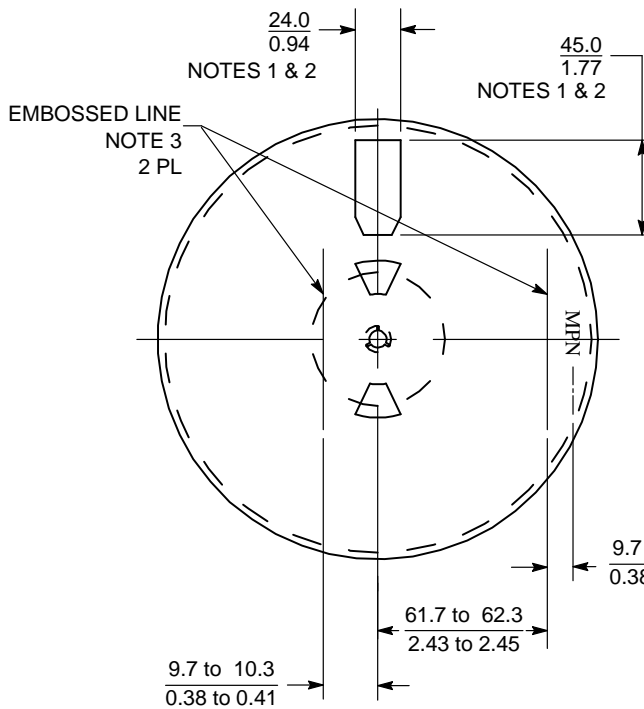

Figure 41. Front View of 178 mm (7.0 in) Reel
- If there are any flange openings on the front side of the 178 mm (7.00 in) reel they must be designed in locations so that two of the 41.3 mm (1.65 in) ON Semiconductor barcode labels can be applied parallel to each other as in Figure 41.
- Flange opening on the front and the back of the reel are a supplier option but must meet all of the requirements in Note 1. The preferred size for the 176 mm (7.0 in) reel is shown in Figure 41.
- The embossed lines on the reel are a option. If the lines are used they must be located as in Figure 41 and 42. They must be a minimum 38 mm (1.50 in) long. The thickness is a manufacturer's option and not to be used for inspection criteria.